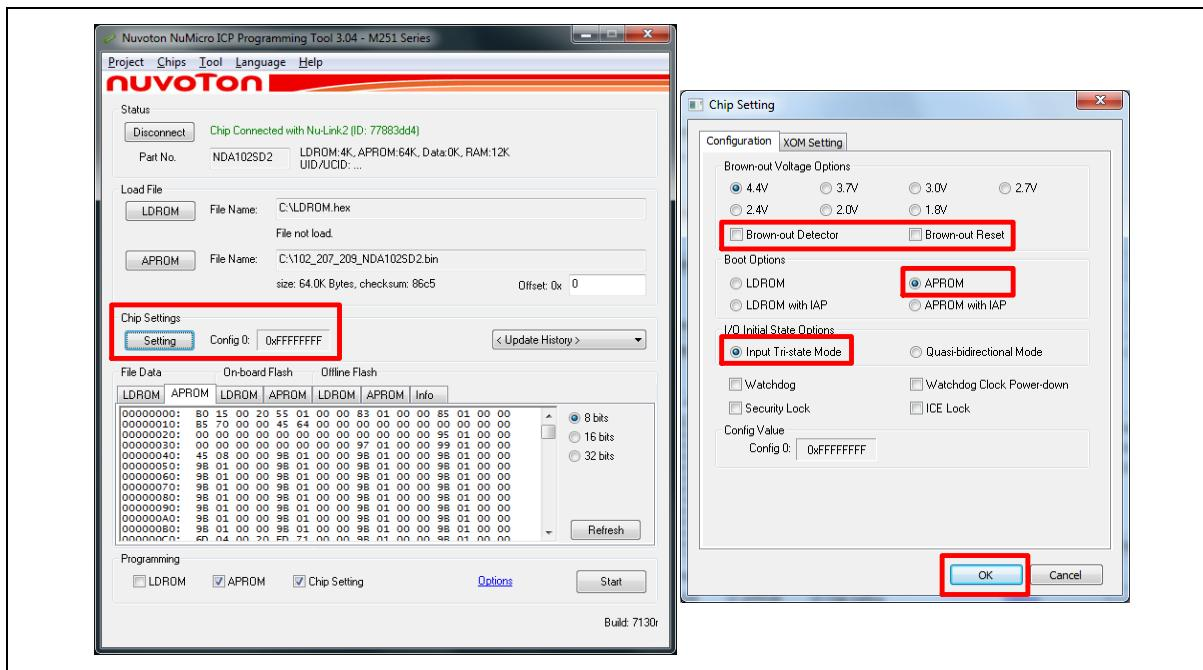

Figure 5-22 Default Chip Setting
3. Configure the “Chip Settings”. The default setting for Nuvoton DALI project is shown as Figure 5-22.